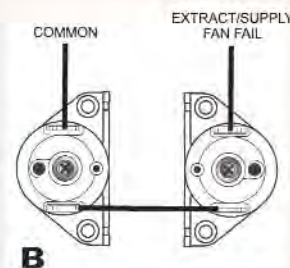

Figure 9
- B. If 2 wires are available see Figure 9. This is if either fan fails it will trigger an alarm.